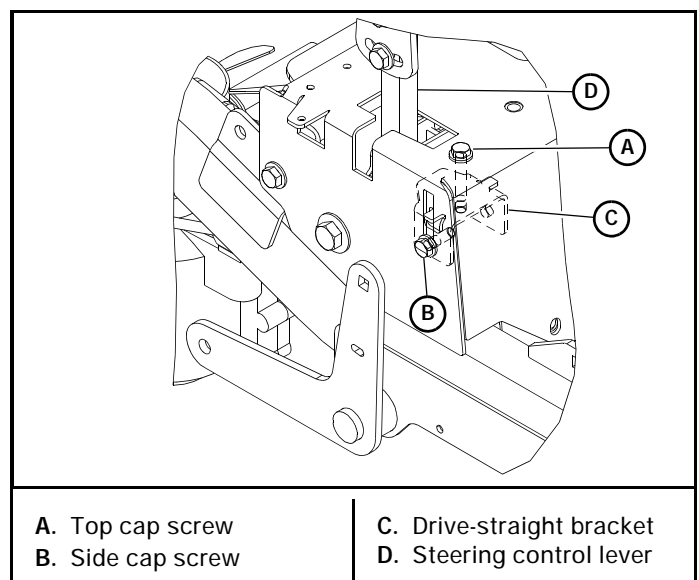

Figure 4-8
the top cap screw to adjust the drive-straight bracket up. This allows the steering control lever to make contact with the drive-straight bracket sooner. Repeat until both drive wheels are rotating at the same speed. Figure 4-8
8. Tighten the side cap screws on both the left and right sides to lock the drive-straight brackets in place. Snug the top cap screws to prevent loosening during operation. Figure 4-8